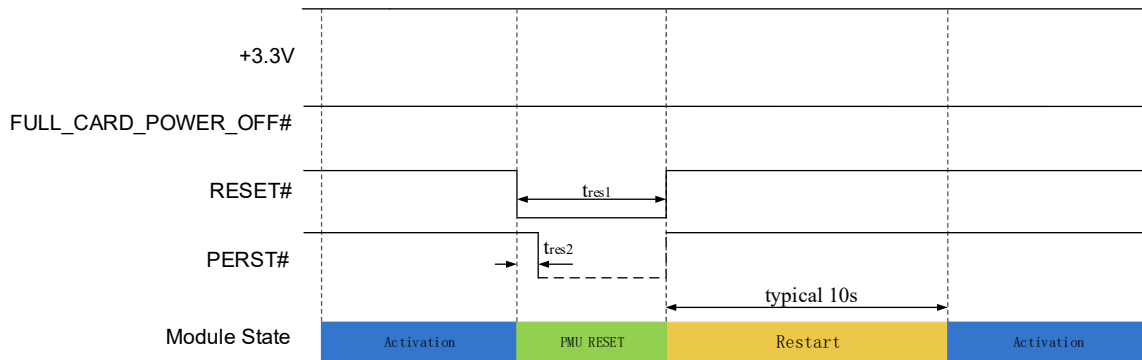

Figure 3-8 Reset control timing1st
- Host may keep FULL\_CARD\_POWER\_OFF# high when system restarting, module reset timing is shown in the Figure 3-8;